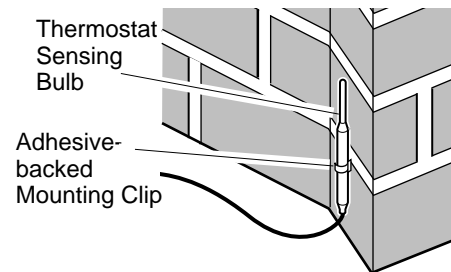

Figure 37 - Locating Thermostat Sensing Bulb on Masonry Fireplace
4. The thermostat sensing bulb may be located to the lower right front side of fireplace. Determine location of sensing bulb, but do not mount sensing bulb until step 5. If you have a masonry fireplace, see Figure 37 for location.